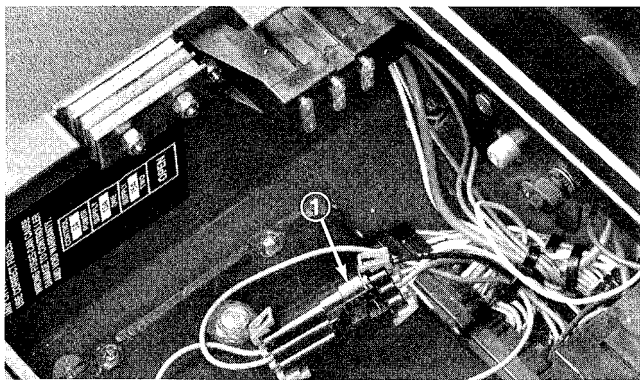

Figure 27
2. Open control panel cover. Locate wire harness and connectors near controller. Carefully unplug loop back connector from harness connector (Fig. 27).